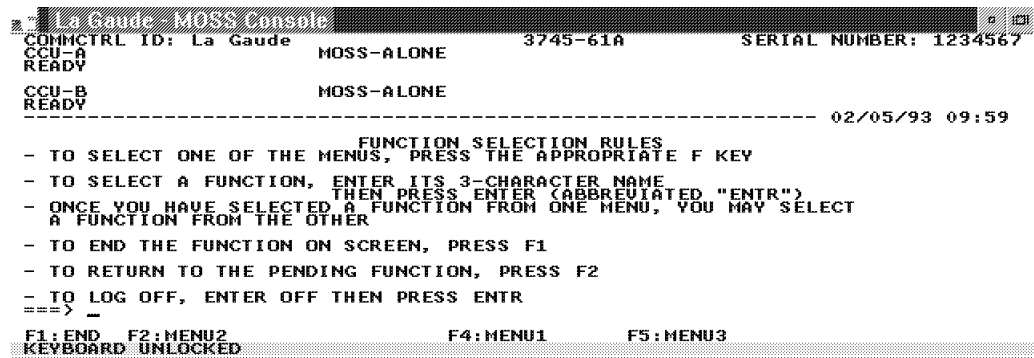

Figure 5-2. MOSS Primary Menu
- d. ____ From the MOSS primary menu (see Figure 5-2), **type CDF** and press **ENTER**.